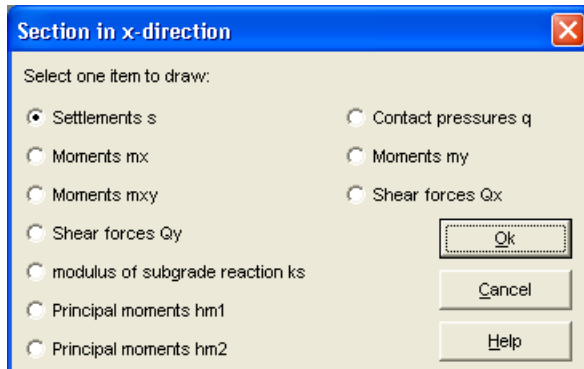

Figure 1-39 "Section in  $x$ -direction" option box
- Choose "Section in  $x$ -direction" command from "Sections" menu. The following option box in Figure 1-39 appears